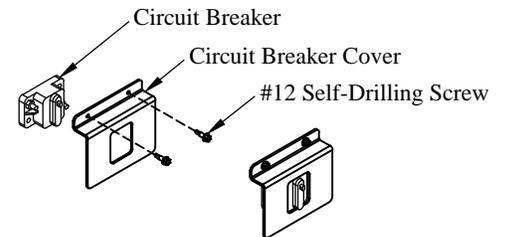

Figure 13: Circuit breaker cover.
- 16. Install** the plastic circuit breaker cover over the circuit breaker using the supplied #12 self-drilling screws (Figure 13).